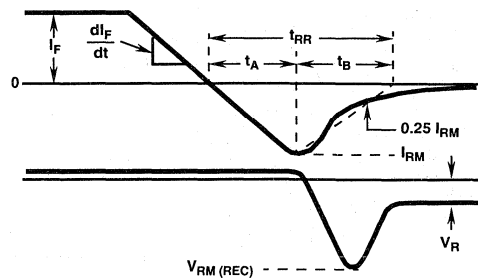

FIGURE 2. DEFINITIONS OF  $t_{RR}$ ,  $t_A$  AND  $t_B$
- $t_{RR}$  = Reverse recovery time at  $dI_F/dt = 100\text{A}/\mu\text{s}$  (See Figure 2), summation of  $t_A + t_B$ .
- $t_A$  = Time to reach peak reverse current at  $dI_F/dt = 100\text{A}/\mu\text{s}$  (See Figure 2).
- $t_B$  = Time from peak  $I_{RM}$  to projected zero crossing of  $I_{RM}$  based on a straight line from peak  $I_{RM}$  through 25% of  $I_{RM}$  (See Figure 2).